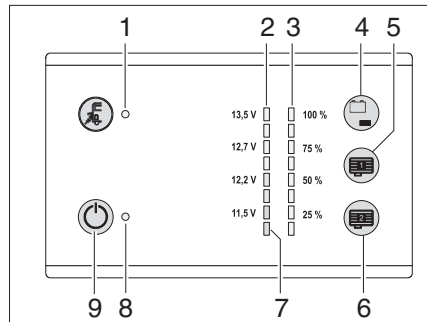

Fig. 94 Panel LT 101 / LT 102
The tank fill level of the water tank can be called up by using the sensor touchpad (Fig. 94,4).
- Touch the sensor touchpad (Fig. 94,4): The fill level of the water tank is indicated in four steps with the LEDs (Fig. 94,3) (25% to 100%).
The tank fill levels of the interior waste water tanks (special equipment) can be called up with the sensor touchpads (Fig. 94,5 and 6).
- Touch the sensor touchpad (Fig. 94,5 or 6): The fill level of the corresponding water tank is indicated in four steps with the LEDs (Fig. 94,3) (25% to 100%).
The red warning LED (Fig. 94,7) flashes as soon as the voltage of the living area battery only still amounts to 11 V (measured under operation) and there is a risk of a total discharge.
The charging condition of the living area battery can be called up by using the sensor touchpad (Fig. 94,4).
Displays: ■ Touch the sensor touchpad (Fig. 94,4): The charging condition of the living area battery is displayed.
The 12 V main switch (Fig. 94,9) switches the panel and the 12 V power supply of the living area on and off.
Switching on: ■ Touch the sensor touchpad (Fig. 94,9): The 12 V living area power supply is switched on. The indicator lamp (Fig. 94,8) lights up green.
Switching off: ■ Touch the sensor touchpad (Fig. 94,9) again: The 12 V living area power supply is switched off. The 12 V indicator lamp (Fig. 94,8) goes off.
- ▷ If the warning LED total discharge (Fig. 94,9) flashes, the power supply cannot be switched on because the battery voltage is too low.